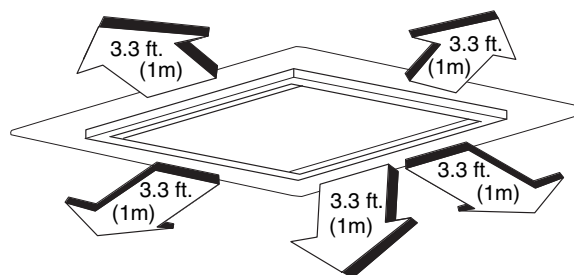

Fig. 1
- allow room for operation and maintenance as well as unrestricted air flow around the unit. (Fig. 1)